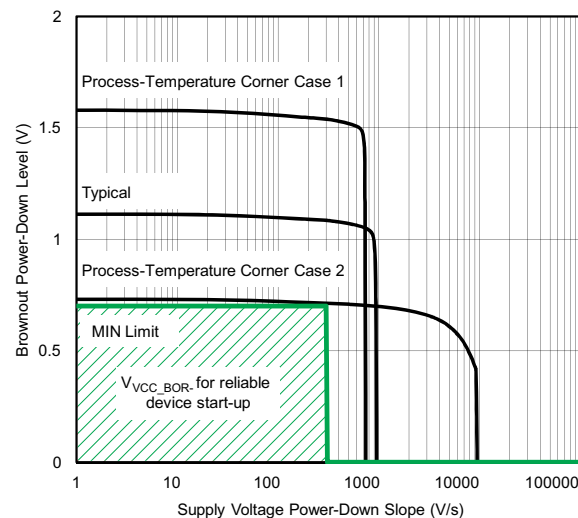

Figure 5-6. Brownout Power-Down Level vs Supply Voltage Down Slope
- (1) In case of a supply voltage brownout, the device supply voltages must ramp down to the specified brownout power-down level (V_{VCC_BOR-}) before the voltage is ramped up again to ensure a reliable device start-up and performance according to the data sheet including the correct operation of the on-chip SVS module.
- (2) Fast supply voltage changes can trigger a BOR reset even within the recommended supply voltage range. To avoid unwanted BOR resets, the supply voltage must change by less than 0.05 V per microsecond ($\pm 0.05 \text{ V}/\mu\text{s}$). Following the data sheet recommendation for capacitor C_{DVCC} should limit the slopes accordingly.
- (3) The brownout levels are measured with a slowly changing supply. With faster slopes, the MIN level required to reset the device properly can decrease to 0 V. Use the graph in Figure 5-6 to estimate the V_{VCC_BOR-} level based on the down slope of the supply voltage. After removing V_{CC} , the down slope can be estimated based on the current consumption and the capacitance on DVCC: $dV/dt = I/C$ where $dV/dt = \text{slope}$, $I = \text{current}$, $C = \text{capacitance}$.
- (4) The brownout levels are measured with a slowly changing supply.